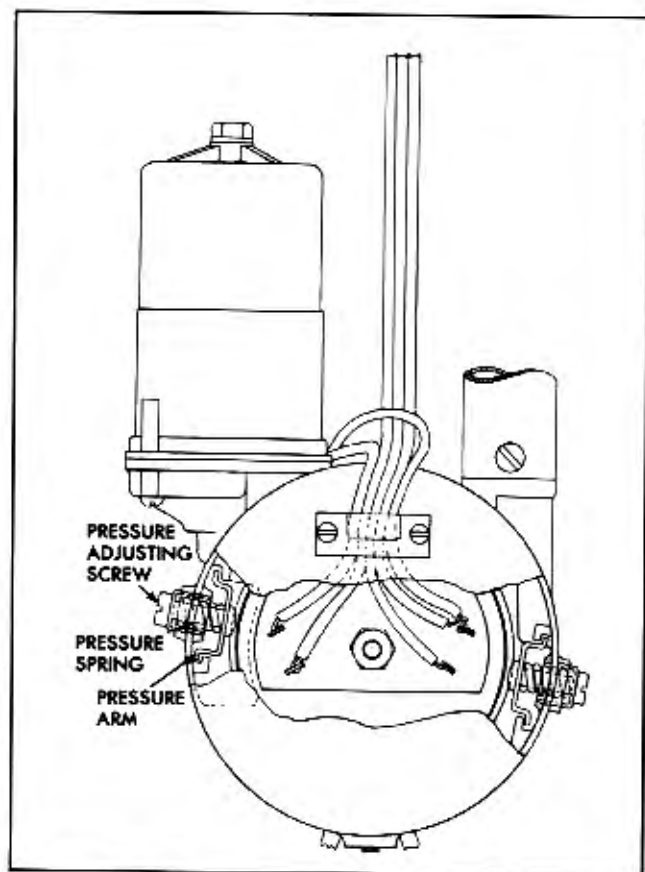

Fig. 14-5 Details of Pressure Arms and Springs
9. Remove two pressure arm adjusting screws from bosses on sides of drive housing and remove pressure springs (Fig. 14-5).
13. Remove two pressure arms from housing (Fig. 14-5).
5. Position pressure arms in slots. Pressure arms are not reversible and must be installed so that the button is exactly centered over the spring bore (Fig. 14-5).